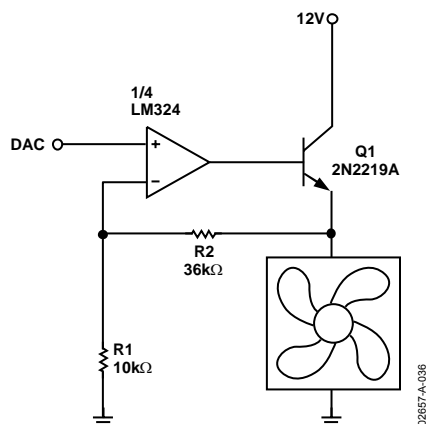
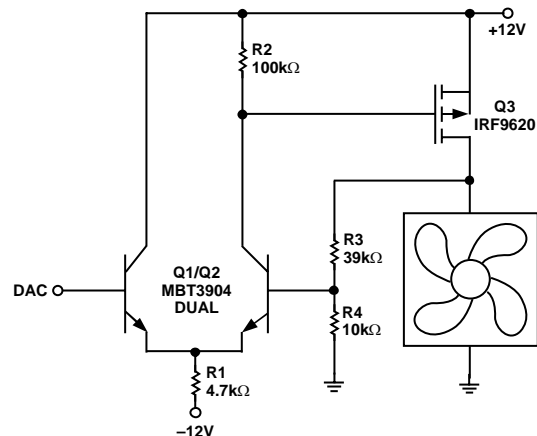

Figure 36. Fan Drive Circuit with Op Amp and Emitter-Follower
Figure 40. Discrete Fan Drive Circuit with P-Channel MOSFET, Dual Supply
Suitable fan drive circuits are shown in Figure 36 through Figure 40. When using any of these circuits, note the following:
- All of these circuits provide an output range from 0 V to almost $+12 \text{ V}$, apart from Figure 36, which loses the base-emitter voltage drop of Q1 due to the emitter-follower configuration.